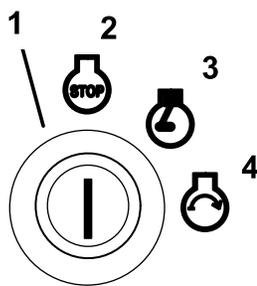

Figure 12
6. Turn the ignition key clockwise to the run position (Figure 12).
- Turn the key to the start position and the glow plug indicator light will come back on. When the engine starts, release the key (Figure 12).
- Turn the ignition key clockwise to the run position (Figure 12).
- Turn the ignition key to the off position (Figure 12). Wait for all moving parts to stop before leaving the operating position.